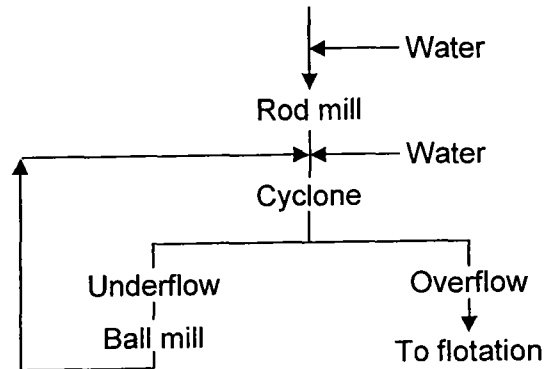

Figure Q4
- [b] As a process engineer you are required to operate the grinding circuit as shown in Figure Q4.
For optimum performance, the water requirement which produces optimum slurry composition in all parts of the circuit is required. Calculate the circulating load in the grinding circuit shown in Figure Q4 and then determine the amounts of water that need to be added to the rod mill and cyclone feed.